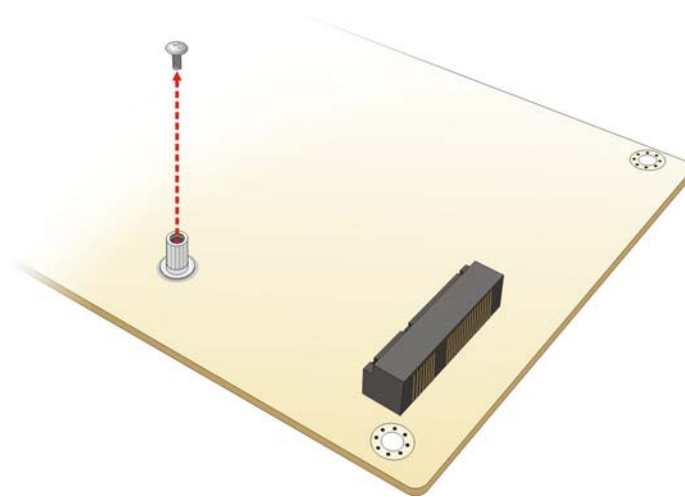

Figure 4-1: Removing the Retention Screw
Step 2: Remove the retention screw. Remove the retention screw as shown in **Figure 4-1**.